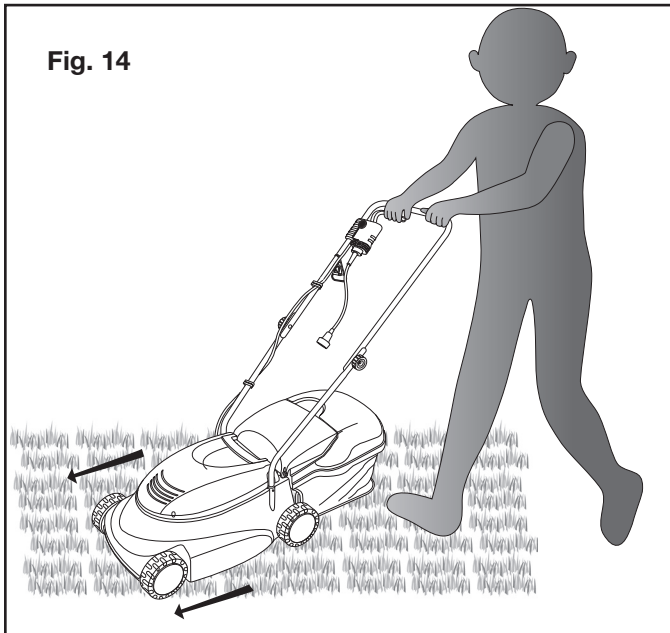

Fig. 14
3. Once the machine powers on, release the safety lock button and let the motor get up to speed, gently lowering the mower down into the cutting position and start mowing (Fig. 14).